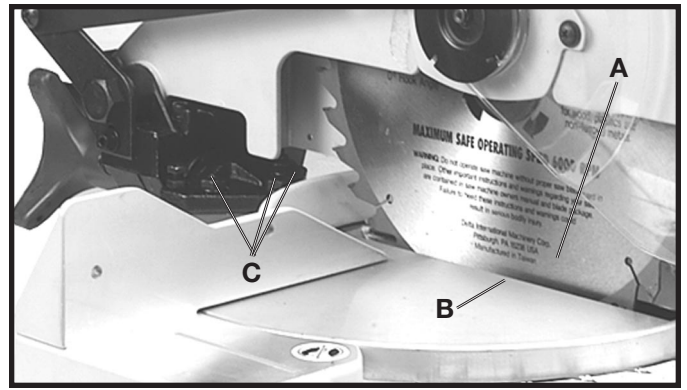

Fig. 22
1. Lower the cutting arm. The saw blade (A) Fig. 22 should be parallel to the left edge (B) of the table opening.
2. If an adjustment is necessary, loosen three screws (C) Fig. 22 and move the cutting arm until the blade is parallel with the left edge (B) of the table opening and centered in the slot. Then tighten the three screws (C).